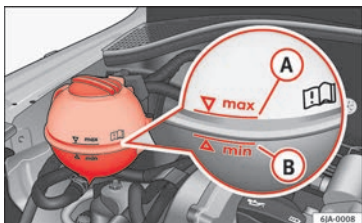

Fig. 112 Engine compartment: coolant fluid tank.
The type of anti-freeze to be used for topping up is indicated on the coolant tank cover » Fig. 112.
- Read off the coolant level on coolant expansion tank » **Fig. 112**. When the engine is cold, the coolant should be between marks **B** (min.) and **A** (max.). When the engine is hot, it may be slightly above mark **A** (max.).
- Cover the cap on the coolant expansion tank » **Fig. 112** with a cloth and **carefully** unscrew the cap.
Never fill the coolant tank above mark **A** (max.) » **Fig. 112** Excess coolant is forced out of the cooling system through the over-pressure valve in the filler cap of the expansion tank when the engine heats up.